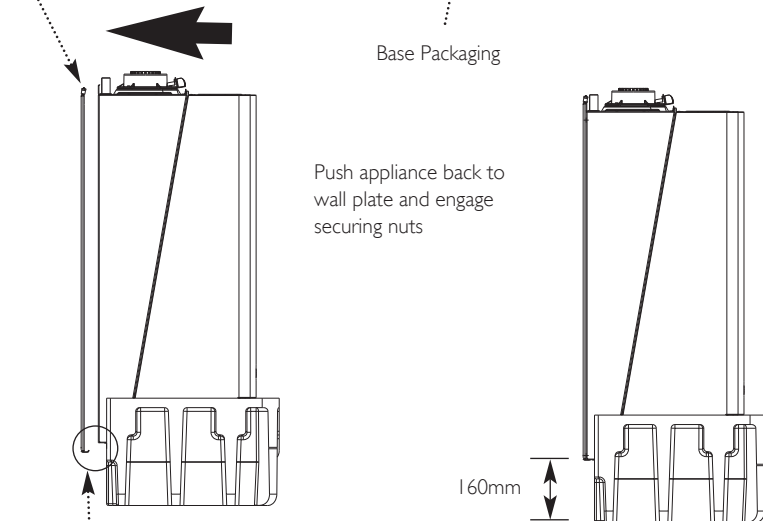

Fig. 28
2. Push the appliance back onto the wall plate and engage the securing nuts at the top of the appliance by sliding to the right and swinging down (Figs. 28 & 29).